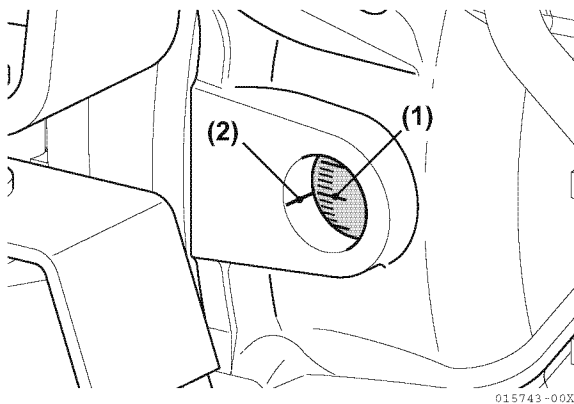

Figure 6-61
9. Highlight the target timing mark (**Figure 6-61, (1)**) on the flywheel as calculated in *Determining the Fuel Injection Timing Specification* on page 6-32 (FIT 18°).
12. Check the position of the previously determined flywheel target timing mark (**Figure 6-61, (1)**) in relation to the timing reference mark (**Figure 6-61, (2)**) on the flywheel housing. If the two marks are aligned, the fuel injection timing is correct. If the marks do not align, the fuel injection timing must be adjusted. See *Adjusting Fuel Injection Timing* on page 6-36.